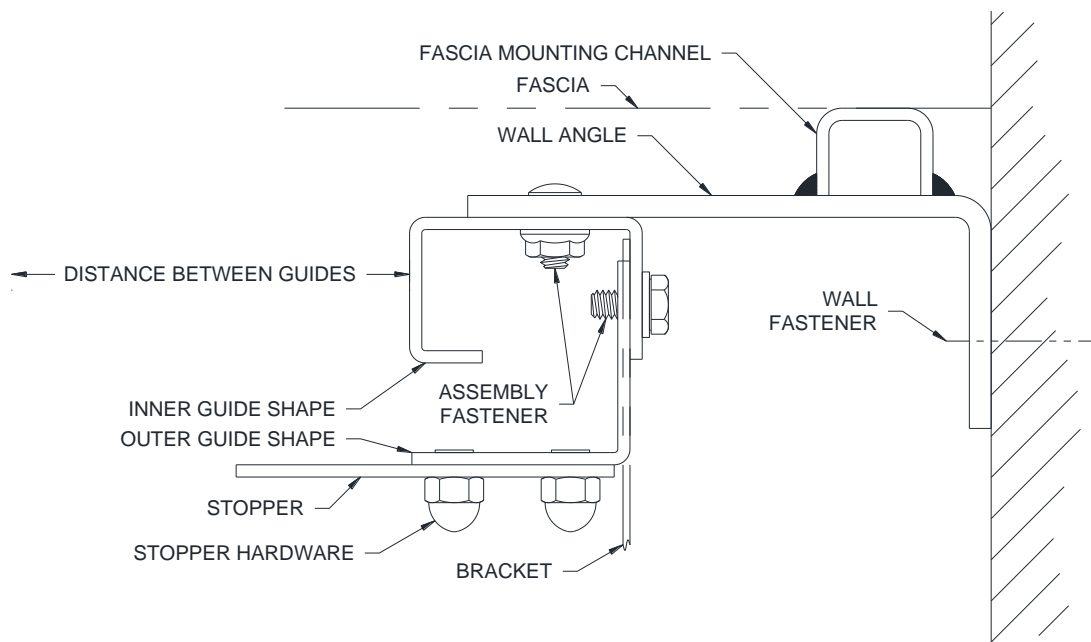

Figure 5.5 – Between Jamb Guide (steel)¹
3. Use the job construction drawings to locate the guides on the jamb. Be sure to allow room for the fascia mounting channel that is welded to the wall angle on between jambs **steel** guides. See **Figure 5.5**.